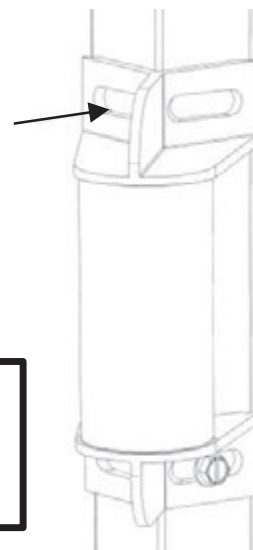

Fig. 1.2
- a. Place the top screw hole slot of the GTU (Fig. 1.2) either 9 inches below where the gas tank meets the frame, **OR** ½ an inch above the bottom of the lowest electrical outlet, **whichever location is lower on the generator frame.**
- b. With the GTU in the desired position, mark the generator frame centered inside one of the top screw hole slot on the GTU. Then mark the center of the screw hole diagonally across from the first. (Fig. 1.2)
- c. Using a 5/32" drill bit, drill one hole centered on each of the marks made on the generator frame. (Fig. 1.2)